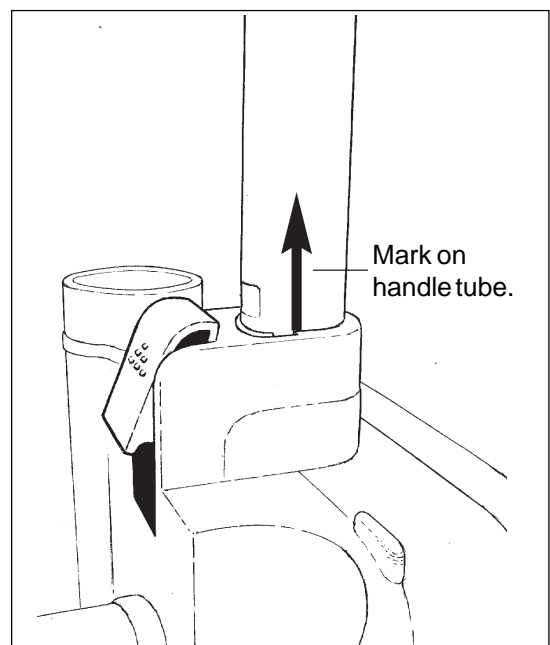

Figure 4
- a. Insert handle tube in the upper canister housing (see figure 4).